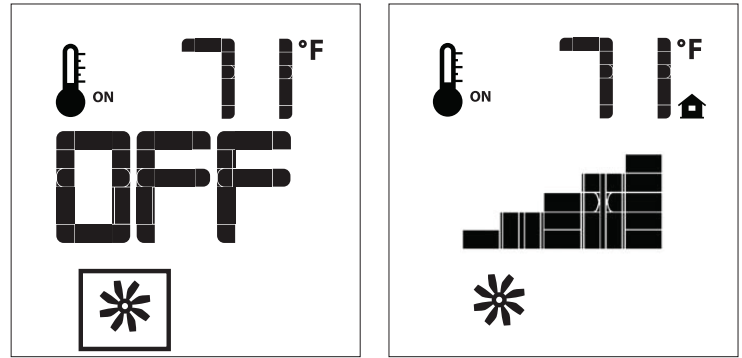

Figure 13: Fan Control
The NF30GI comes with a convection fan that can be controlled with the Transmitter. The fan speed can be adjusted through six (6) speeds. To control the fan press the MODE key (Figure 5) to index to the fan control icon (Figure 13). Use the UP/DOWN arrow keys to turn on, off, or adjust the fan speed (Figure 13). A single beep from the IFC will confirm the command has been received